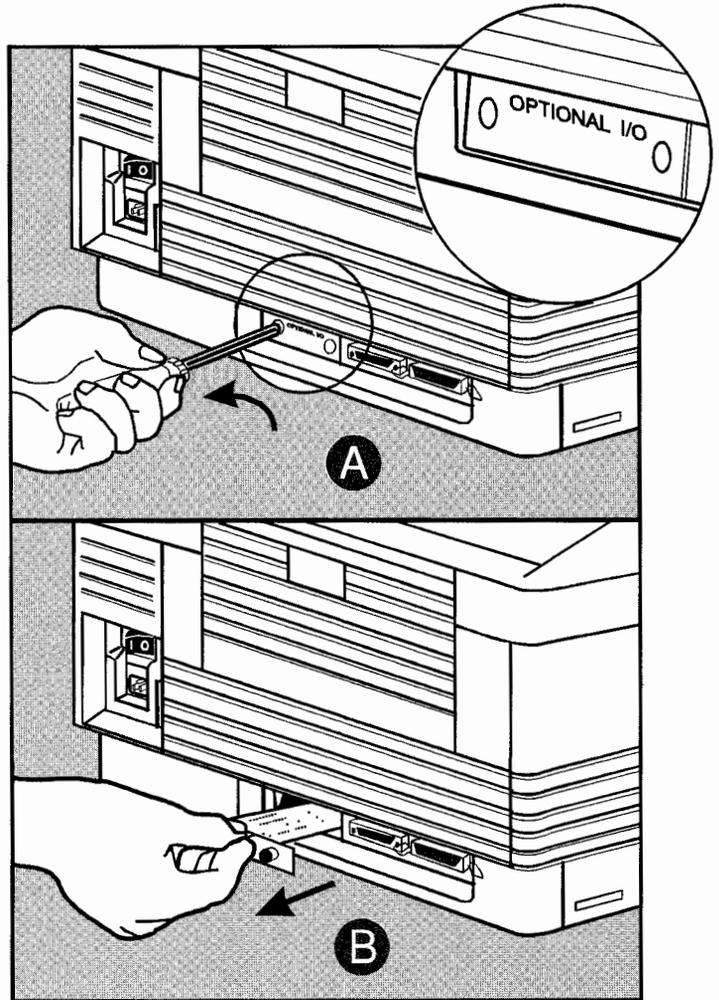

Figure 3-20. Accessing the Optional I/O Slot
5. Locate the Optional I/O slot at the rear of the printer, near the center. See Figure 3-20.
6. Remove the existing adapter card (if any) from the accessory slot at the rear of the printer by following these steps (see Figure 3-20):
- b. Remove the existing adapter card (if any) by pulling firmly on the card's handle. See ② in Figure 3-20. Store the card in the antistatic bag in which your Token Ring card came.